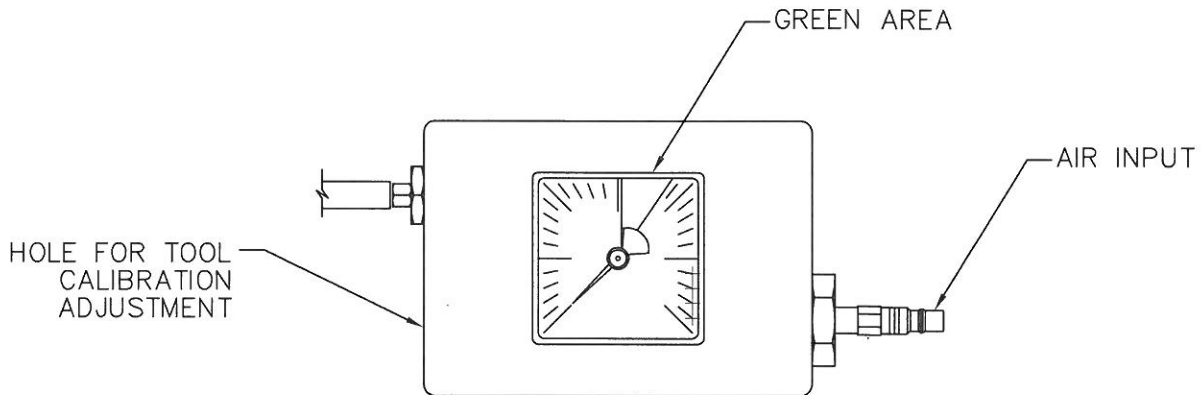

FIGURE 4
- 3.2 Adjust regulator subassembly (see Figure 4) through adjustment access hole using a flat blade screwdriver - clockwise to increase reading and counter-clockwise to decrease reading.